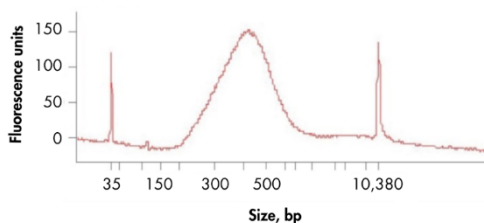

Figure 3. Bioanalyzer trace of library prepared with the QIAseq FastSelect RNA Library Kit.
13. Assess the quality of the library using the QIAxcel Connect, Agilent Bioanalyzer, TapeStation®, or Fragment Analyzer. Check for the expected size distribution of library fragments. An example library is shown in Figure 3.